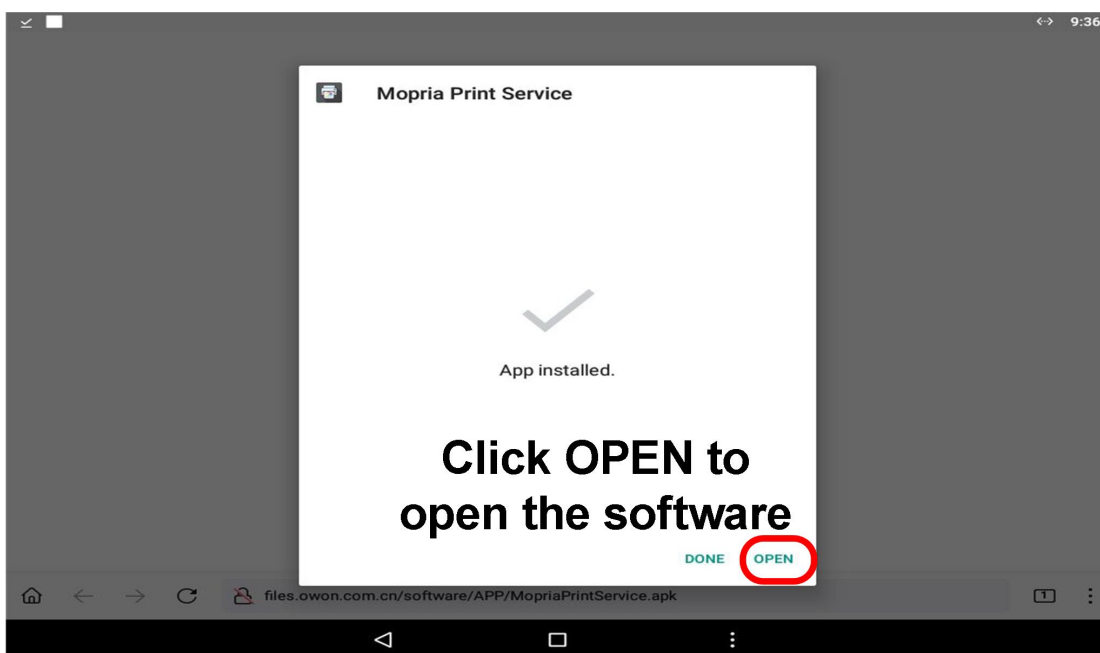

Figure 5
2、 In website install print app,steps as shown in Figure1 to Figure 5.
⑤ After install success, click **OPEN** can open print app. As shown in Figure 5.